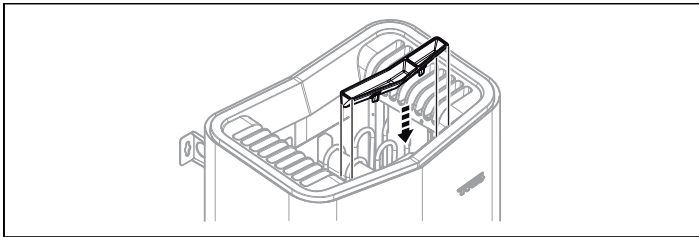

Figure 13: Fitting the fragrance holder/air humidifier
8. Fit herb bowl/air humidifier (see Fig. 13).